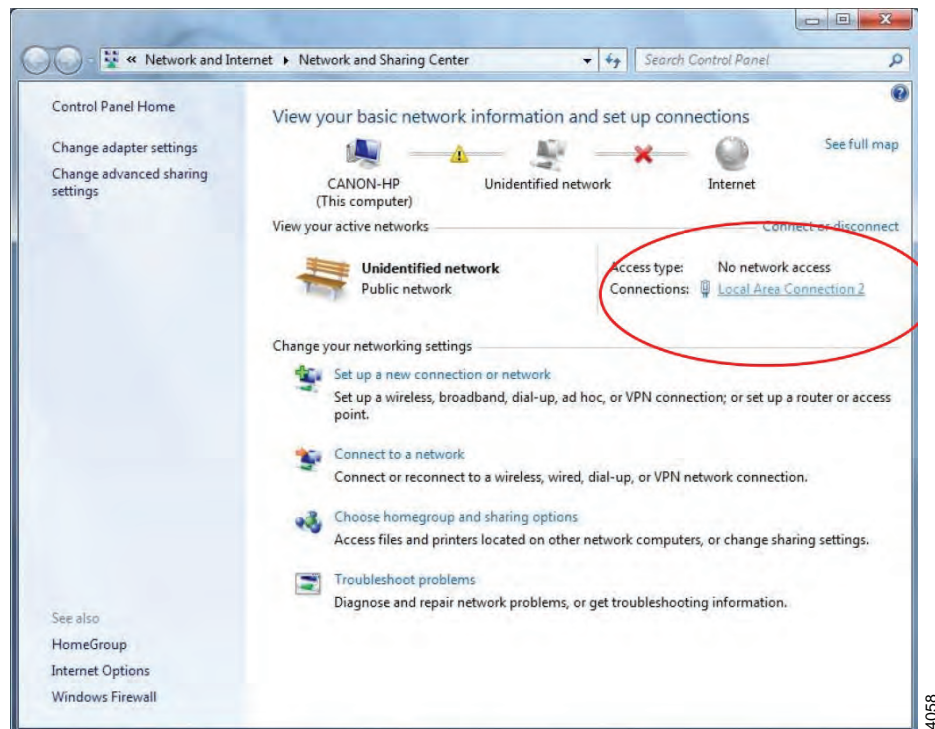

Fig. 5-1
2. Click the Connection name, can be other than “Local Area Connection 2” as in Fig. 5-1 .